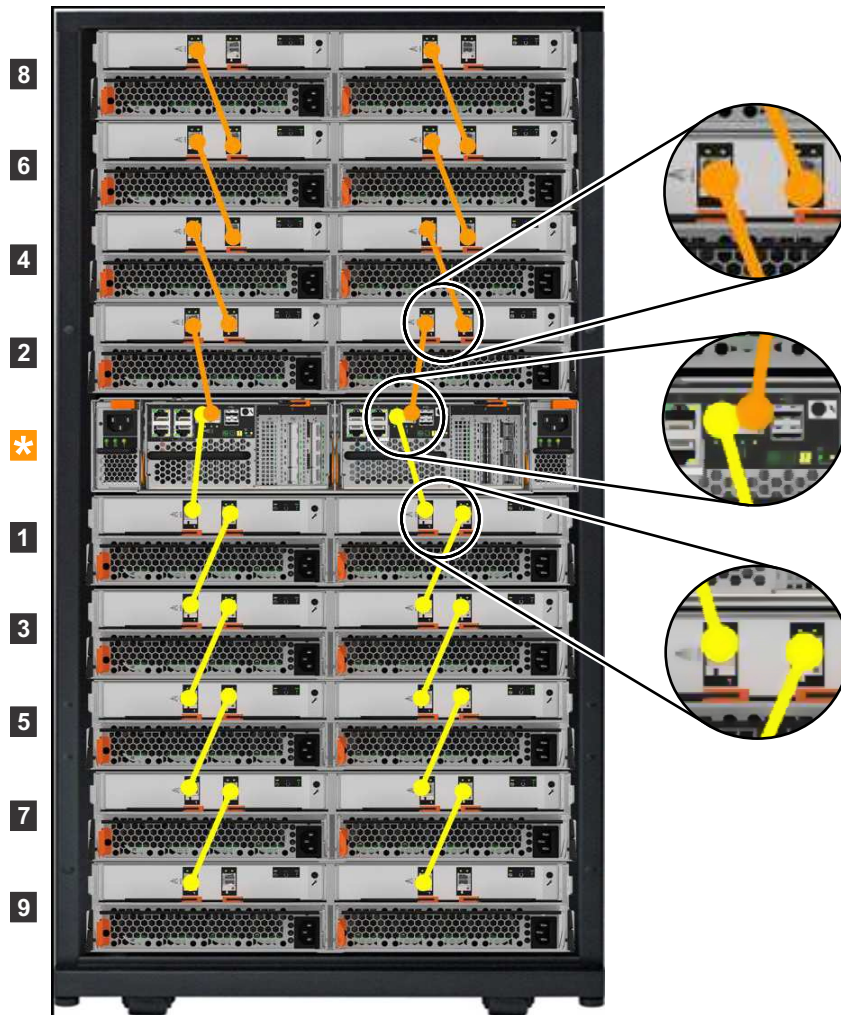

Figure 23. Connecting the SAS cables
- No more than ten expansion enclosures can be chained to SAS port 1 of a node canister. The expansion enclosures in this chain should be installed below the control enclosure (as shown in Figure 23 on page 26).
- No more than ten expansion enclosures can be chained to SAS port 2 of a node canister. The expansion enclosures in this chain should be installed above the control enclosure (as shown in Figure 23 on page 26).